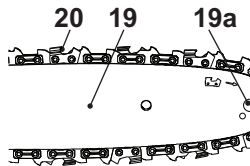

Fig. 8
7. The saw chain movement is as indicated by the arrow. Make sure the saw chain (20) is properly placed over the sprocket wheel (19a) of the guide bar (19) (Fig. 8).